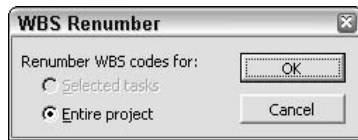

Figure 7-24: Use this dialog box to renumber the project.
1. Choose Project⇨WBS⇨Renumber. Project displays the dialog box shown in Figure 7-24.